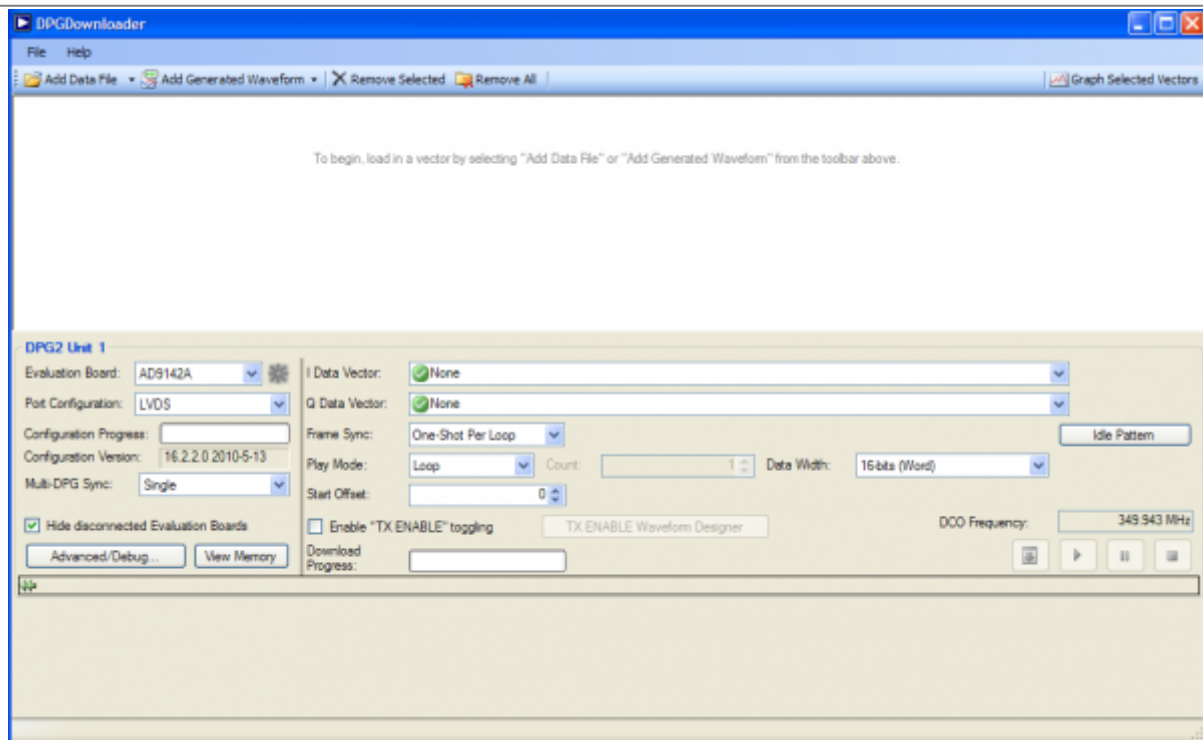

Figure 4 DPG Downloader Panel
- f. Open DPG Downloader if you have not done so. (Start > All Programs > Analog Devices > DPG > DPGDownloader). Ensure that the program detects the AD9142A, as indicated in the “Evaluation Board” drop-down list, and select it. For this evaluation board, LVDS is the only valid Port Configuration, and it will be selected automatically. The “DCO Frequency” window should show the correct data rate (350 MHz). The actual detected frequency may not be exactly 350 MHz but it should be stable and very close to it as shown in Figure 4.